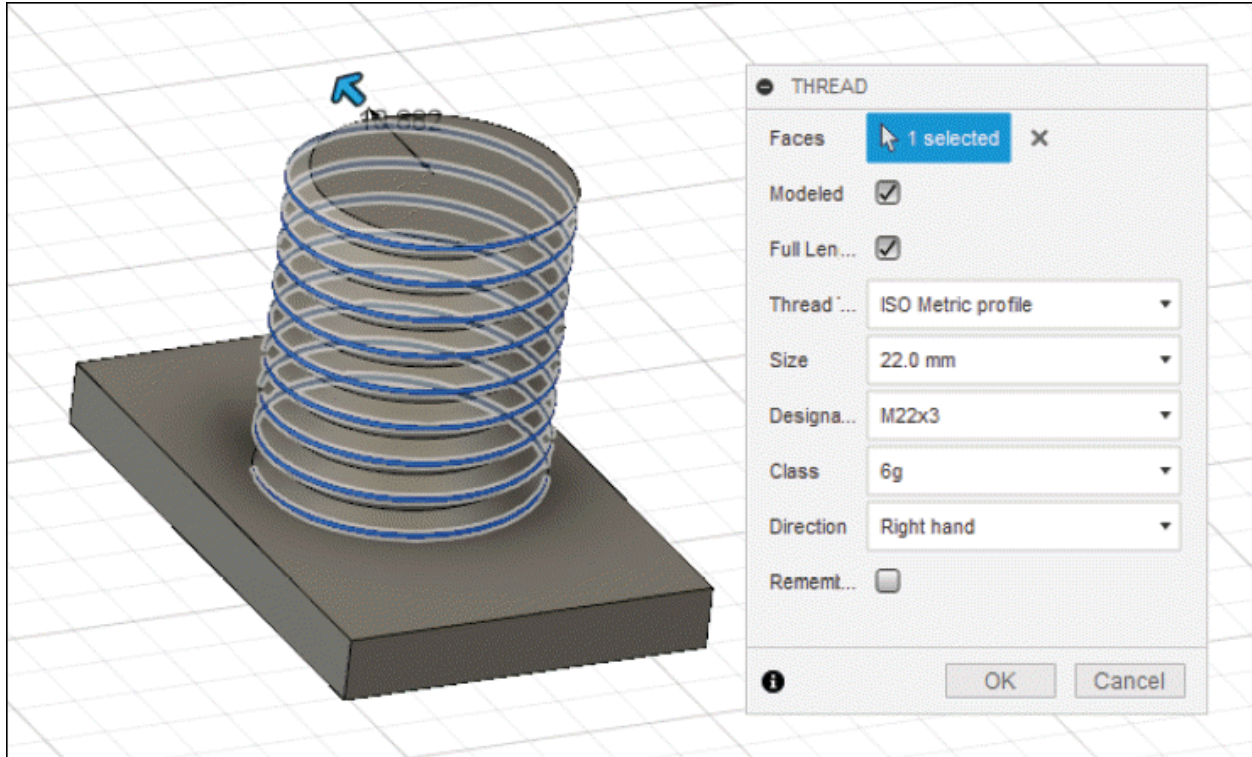

Figure-54. Preview of thread on selecting Modeled check box
- On selecting **Modeled** check box, preview of thread will be displayed; refer to Figure-54.